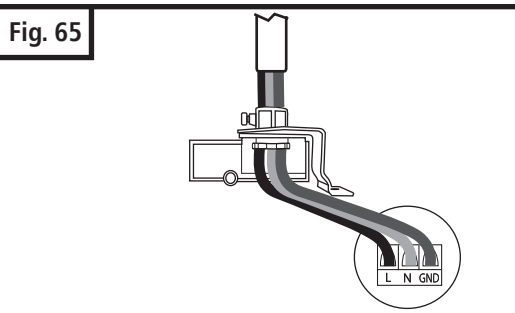

Fig. 66
Assemble LED Cluster (Fig. 66):
- Remove screw from transformer module cover plate. Break cover plate as shown in Fig. 66. Remove and save chassis screw.